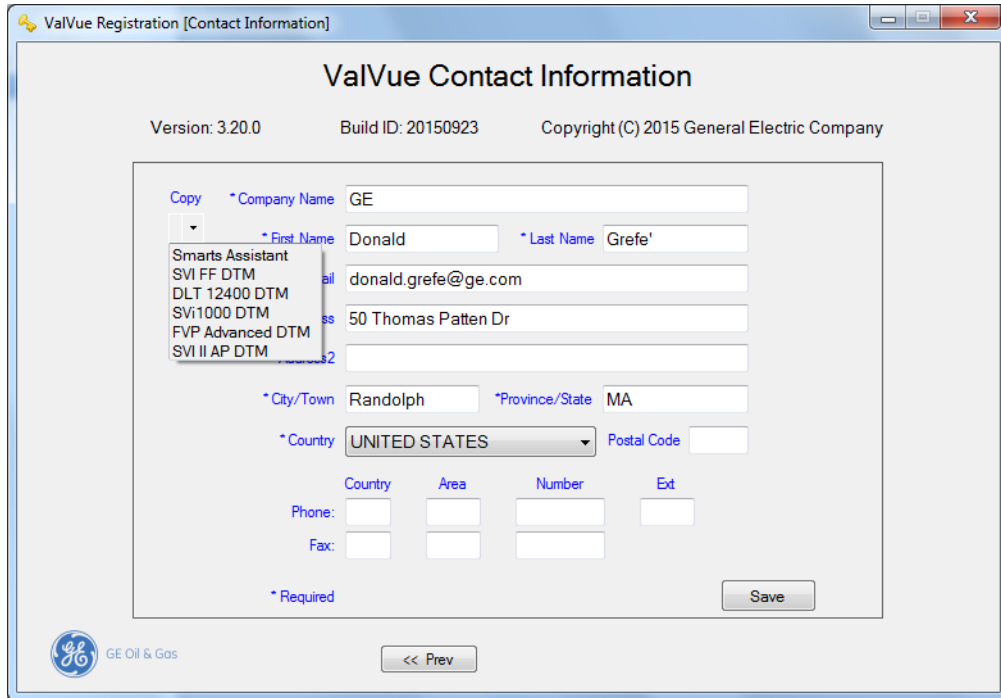

Figure 4 Contact Information
2. Click  or click **Next** and Figure 4 appears.